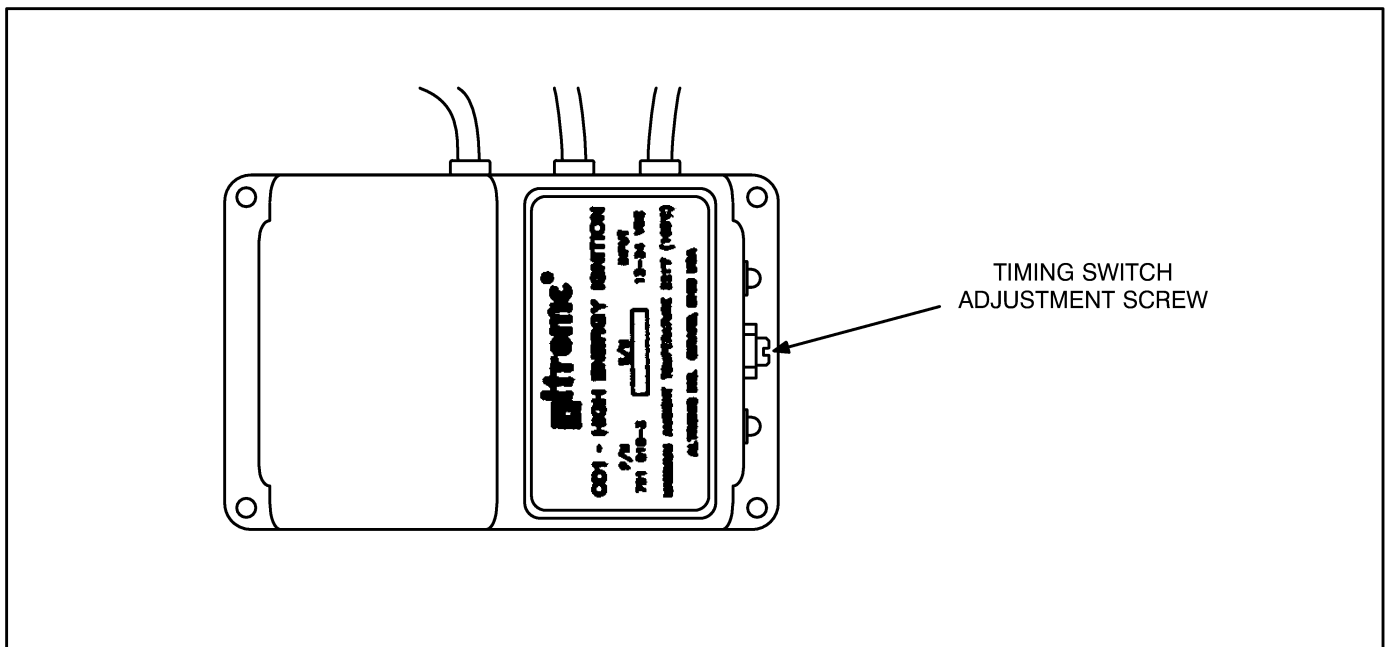

FIGURE 7-4. CD1 IGNITION MODULE
4. If the engine timing needs to be adjusted, remove the white plastic cap and turn the timing switch adjustment screw (10 degree range) of the CD1 Ignition Module (Figure 7-4).